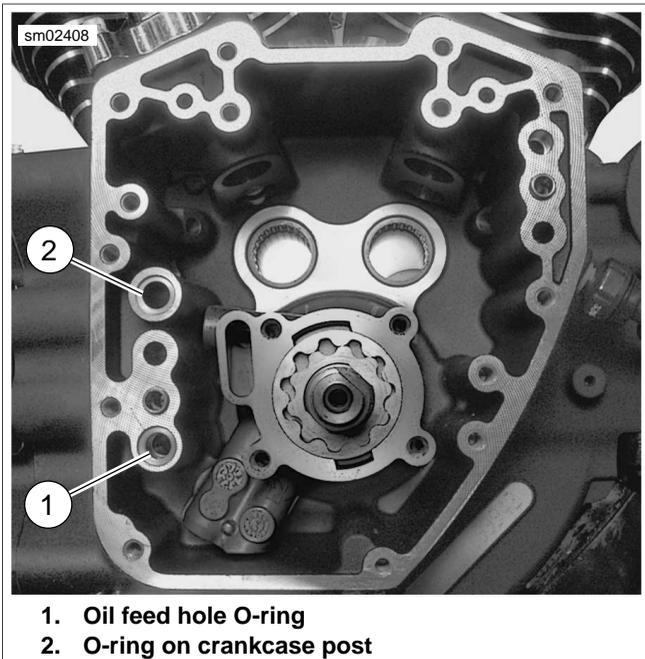

Figure 3-52. Oil Pump O-rings
2. See Figure 3-52. Remove o-rings (1, 2) from crankcase housing. Discard o-rings. See 3.26 OIL PUMP for inspection and repair information.